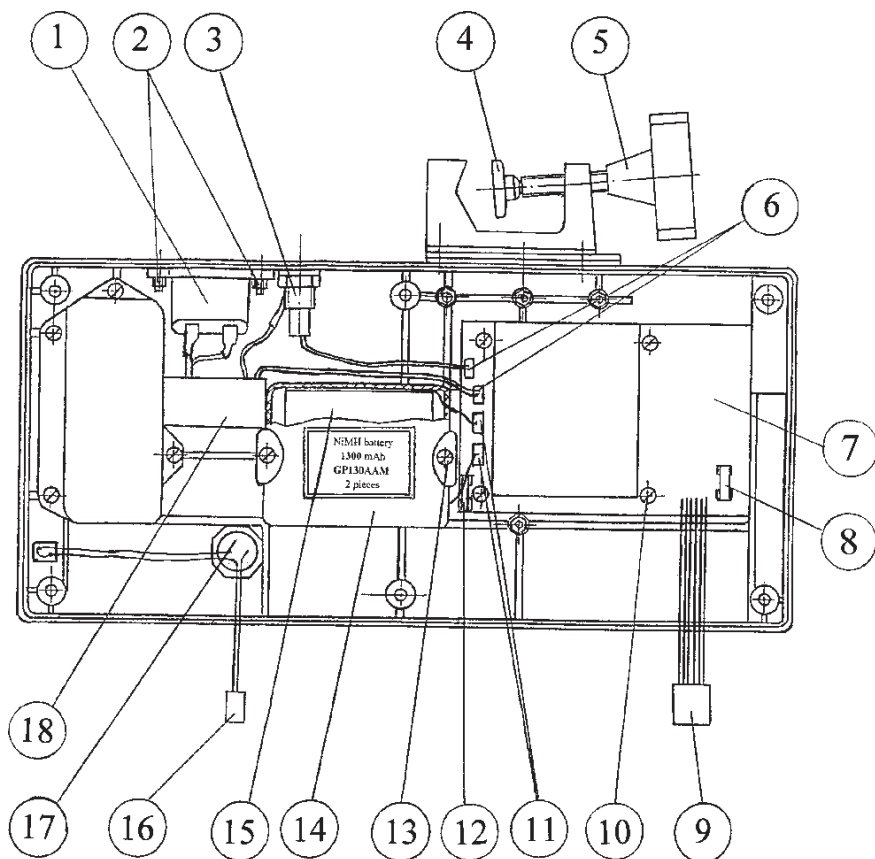
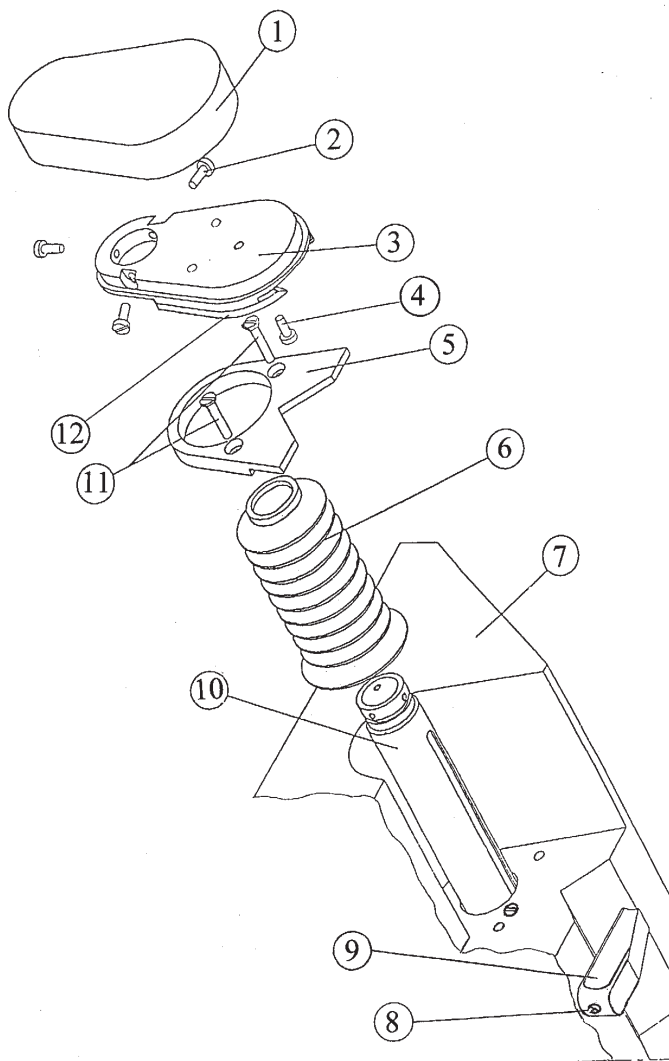

Fig.2
Fig.3
Remove six screws (6) located of the pump base. Carefully lift the pump housing and disconnect the supply unit connector P4 (Fig. 2 pos. 9), buzzer connector P5 (Fig. 2 pos. 16) from the electronic board B7043.
10.2. REPLACING INTERNAL BATTERY (FIG. 2, ANNEX B)
- ◆ Disassemble the pump according to section 10.1. Remove screws (13) fastening the battery cover (14). Disconnect connectors P13, P14 (11) from the supply unit. Install new battery and reconnect connectors P13, P14 (11). Fix the battery cover with screws (13) and reassemble the pump in the reverse order to section 10.1.
10.3. REPLACING RUBBER BELLOWS (FIG. 3)
- ◆ Remove screw (4) and cover (1). Remove three screws (2) fastening the plate (3) to the tube (10) and remove the plate. Remove screws (11). Remove the rubber bellows (6) and the support (5) from the tube (10).
- ◆ Remove the screw (4) and the cover (1) (see Fig. 3). Disconnect the flexible cable (5) from the connector (4). Remove the syringe sensor (3) with its connector (4). Glue the new syringe sensor (3) with its connector (4) on the same place at the same depth. Connect the flexible cable (5) to the connector (4). Fasten the cover (1) with the screw (4) (see Fig.3).
- ◆ Disassemble the pump according to the section 10.1. Remove the screw (8) and remove the syringe clamp (9) (see Fig. 3). Disconnect the syringe size sensor (3) connector P8 from electronic board B7043 (9). Remove two screws (1) and lift the syringe size sensor (3) with other parts. Loosen two screws (2) and pull out the syringe size sensor (3). Install, fasten and reconnect the new syringe size sensor (3) executing above-described actions in reverse order. Reassemble the pump in reverse order to the section 10.1. Perform syringe size calibration (see Chapter 6)
10.12. REPLACING BUZZER UNIT (FIG. 2)
- ◆ Disassemble the pump according to the section 10.1. Detach buzzer unit (17) (potentiometer and buzzer) from the housing. Glue the new buzzer unit to the housing in the same location. Glue potentiometer using thermogluue. Reassemble the pump in reverse order to the section 10.1.
10.13. REPLACING POWER SUPPLY INLET (FIG. 2)
10.14. REPLACING SUPPLY UNIT (FIG. 2)
- ◆ Disassemble the pump according to the section 10.1. Disconnect connectors P13, P14 (11) and P11, P12 (6) from supply unit (7). Remove four screws (10). Remove the supply unit (7). Install the new supply unit (7) and re-connect connectors executing above-described actions in reverse order. Re-assemble the pump in reverse order to section 10.1.